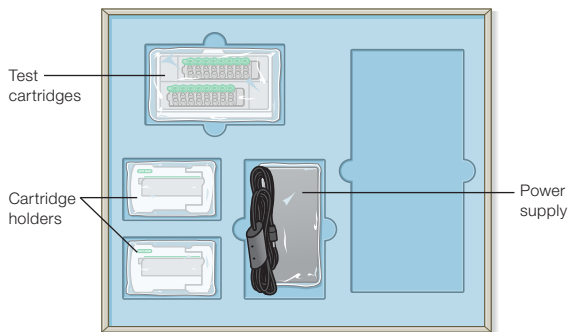

Fig. 1. ddSEQ Single-Cell Isolator and accessory box.
1. Open the accessory kit and verify the contents according to Figure 1.